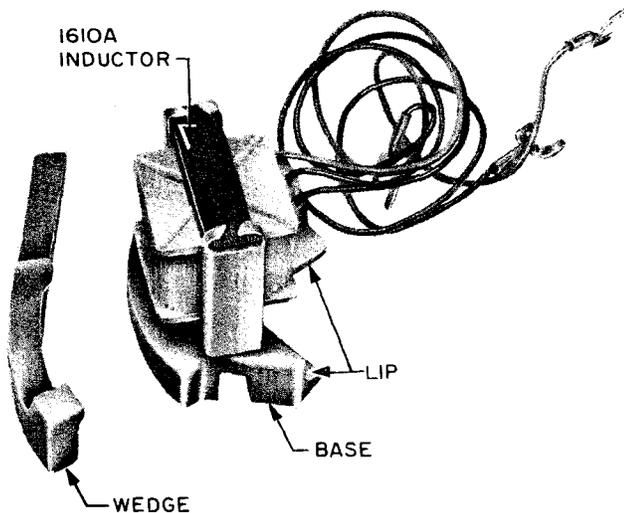

Fig. 4 — 1610A Inductor
**2.07** Where no ringer is used and tip party identification is required, a 1610A or a 1635A inductor shall be installed in the PRINCESS set as shown in Fig. 4, 5, 6, and 7.